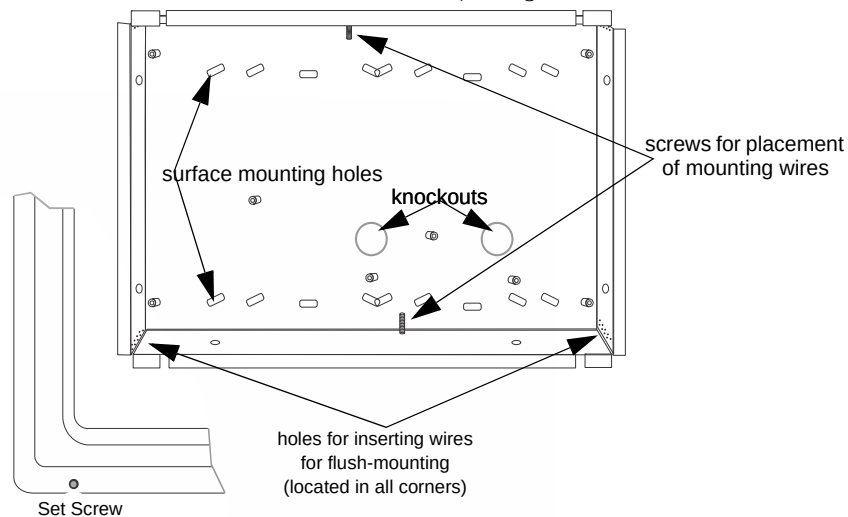

Figure 4.20 Annunciator Backbox and Bezel Details
The 5860 comes from the factory fully assembled. You must disassemble it for mounting. To disassemble the annunciator, use a 5/64 hex wrench to remove the set screws, located on the bottom of the annunciator bezel. (See Figure 4.20 for location of the set screws.)
1. Drill holes in the surface to match the screw holes on the backbox. Refer to Figure 4.20 for locations.
5. Replace the electronic assembly in the backbox. Place the bezel over the backbox and tighten the set screws on the bezel. Refer to Figure 4.20 for location of set screws.